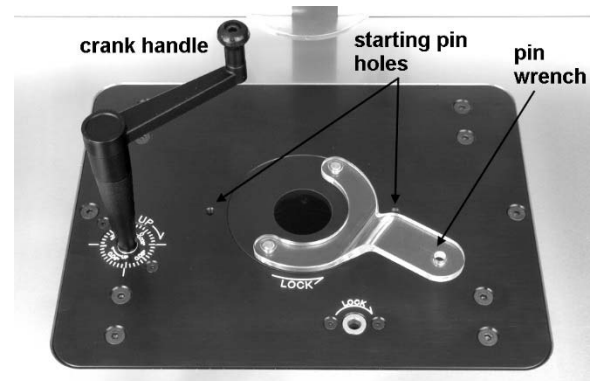

Figure 7-3
- The starting pin can be inserted into one of two holes in the router plate (see Figure 7-3). It is used as a support to help pivot the workpiece into the bit when doing freehand work. See Figure 8-2.